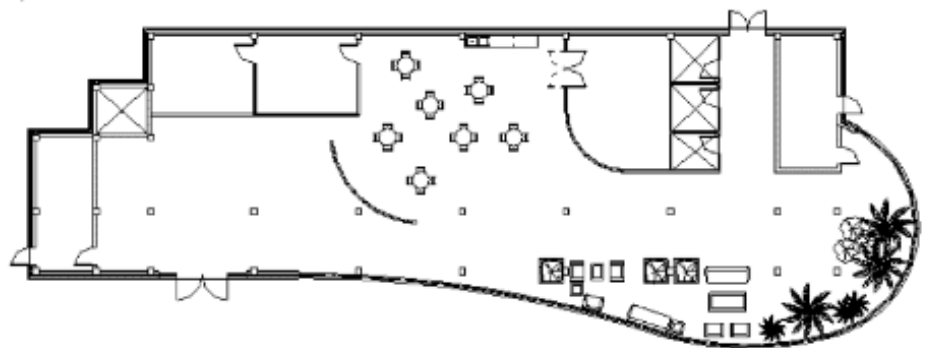

Figure 8–11
12. Place and arrange the components as required, placing the dining tables in the breakfast area and other elements in the lobby, as shown in Figure 8–11. Place at least one plant in a planter. You can follow the suggested layout or create your own design.